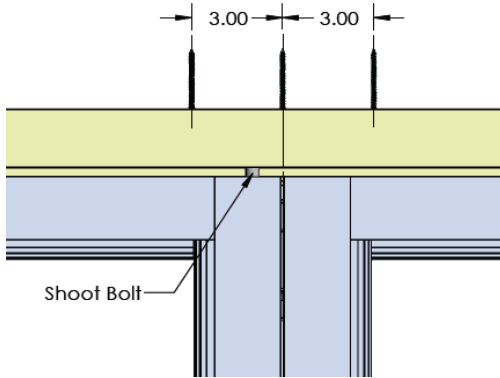

Figure 7:
B. Concentrated Head at Stile Area: This is the location at the head where panels hinge together, or meeting stile conditions. These locations require a concentrated anchor pattern to handle the loads applied to this area. Measure the panel widths to determine these locations (Figure 7).